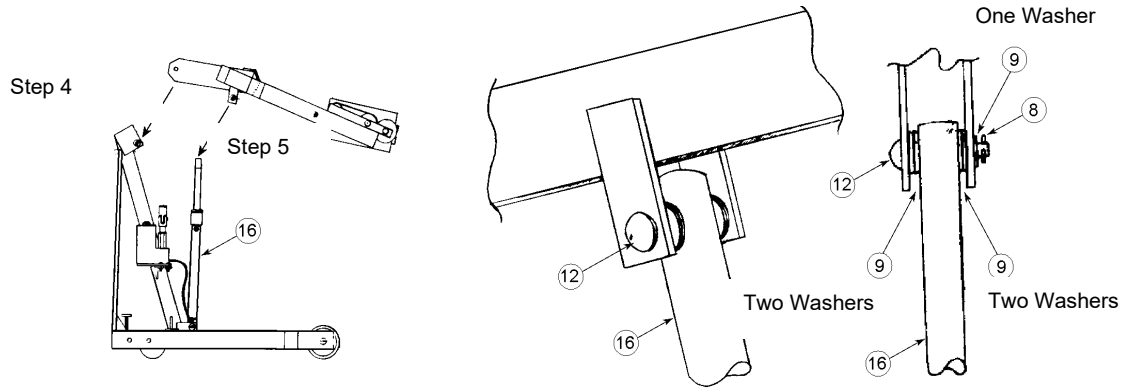

Figure 3 & Figure 4
Step #4: Lift overhead assembly into position. A drift pin can help align the holes. Insert a greased clevis pin (item 12) through mast cap and boom. Tighten collar set screw onto pin. See figure 3.